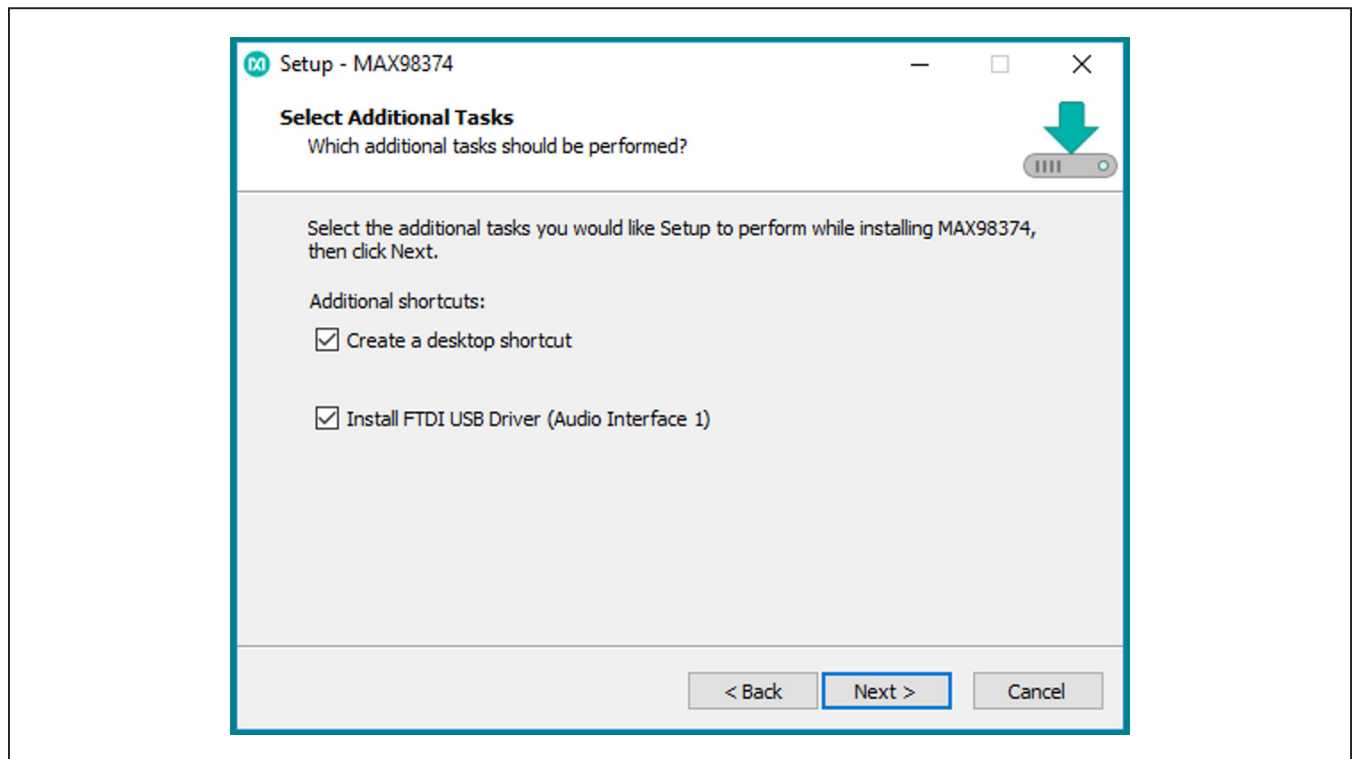

Figure 1. Software Installer, FTDI USB Driver Selection
- 2) Install the software and USB driver on your computer by running the program installer MAX98374EVSwSetup.exe. Program files are copied, and icons are created in the Windows Start | Programs | Maxim Integrated| MAX98374 Evaluation Software folder. Follow the installer prompts to completion. For first time installations, at the **Select Additional Tasks** page, be sure the **Install FTDI USB Driver (Audio Interface 1)** check box is selected as shown in Figure 1. The FTDI drivers are needed for I2C communication with the device through the Audio Interface 1 application board. Windows might display a message indicating that this software is from an unknown publisher. This is not an error condition and it is safe to proceed with the installation.